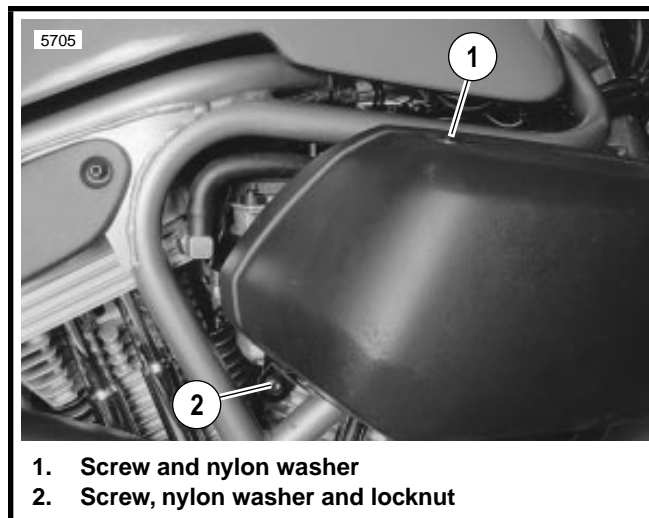

Figure 4-15. Air Cleaner Cover
1. See Figure 4-15. Remove screw and nylon washer on top of air cleaner cover.
8. See Figure 4-15. Place cover over backplate assembly. Install screw and washer into top well nut.